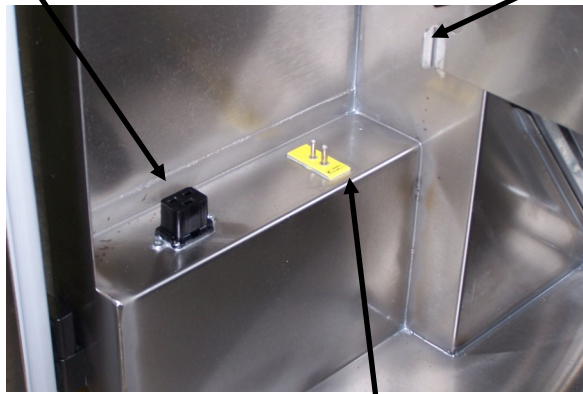

fig. 6 Thermocouple Plug
- Set the deflector onto the oil pot. The deflector helps to contain splashing oil to aid in keeping the AUTOFRY cleaner. The long slope of the deflector should extend toward the front of the AUTOFRY (see figure 6).
- Place the heater box onto the heater box shelf (fig. 6 & 7).
- The heater plug and thermocouple will connect to their respective sockets on the underside of the heater box and deck of the cabinet (fig. 6 & 7).